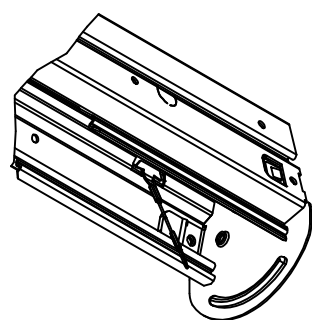

FIGURE 2: TETHER
- C. Secure LED board to housing by looping tether over "T" lance as shown in Figure 2.
- 6) Snap on LED board carrier by aligning screws in LED board carrier with notches in housing. Then pivot board carrier until opposite side snaps in as shown in Fig 2.
- C. Fixer la plaque de LED sur le boîtier en faisant boucler l'attache sur la lance "T" comme illustré à la Figure 2.